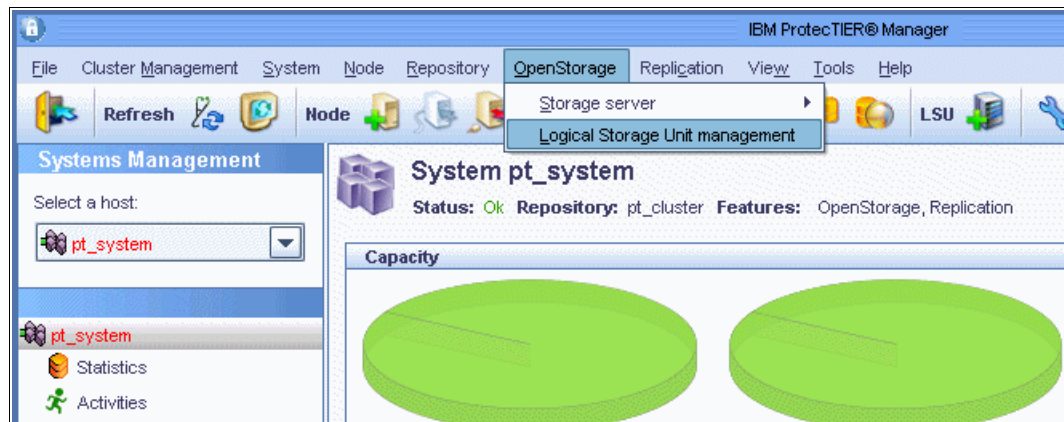

Figure 5-86 Add LSU to STS
1. From ProtecTIER Manager, select **OpenStorage** → **Logical Storage Unit management** (Figure 5-86). The Logical Storage Unit management window opens: